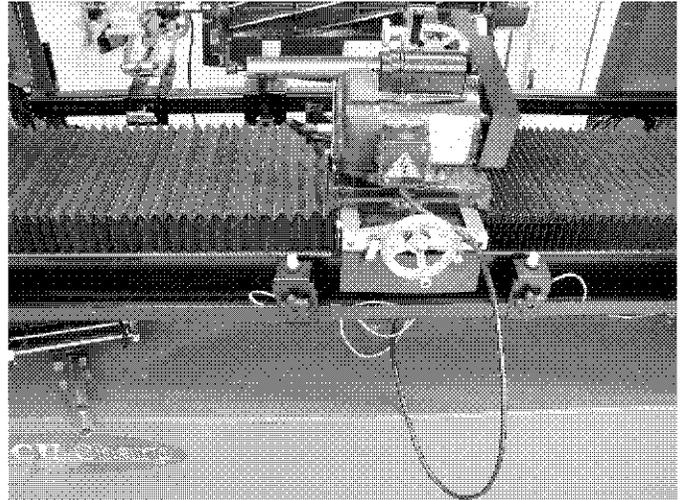

FIG. 65
- K. If grinding wheel is only making contact in one part of the reel, adjust the traverse stop so the carriage traverses slightly further than the contacted area. As you infeed and wheel makes full contact in this area, move traverse stop away 6 to 8". This will speed up the grinding process of getting a cone shaped reel into a true cylinder. See FIG. 65.